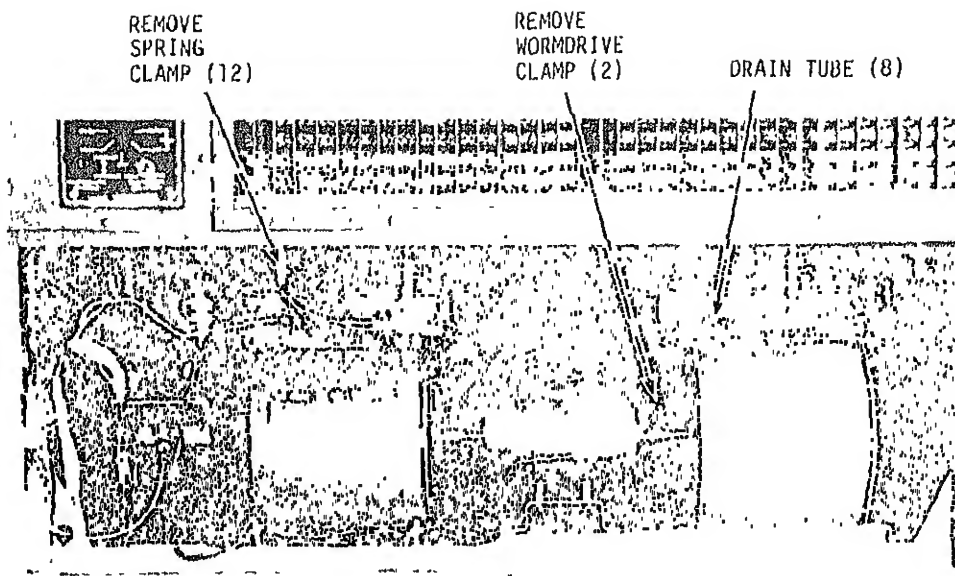

Figure 4-21. Drain tubes, removal and installation
(2) Refer to figure 4-21 and remove clamps which hold plastic drain tubes to fittings.
(1) Refer to figure 4-21 and replace tubes and clamp securely.